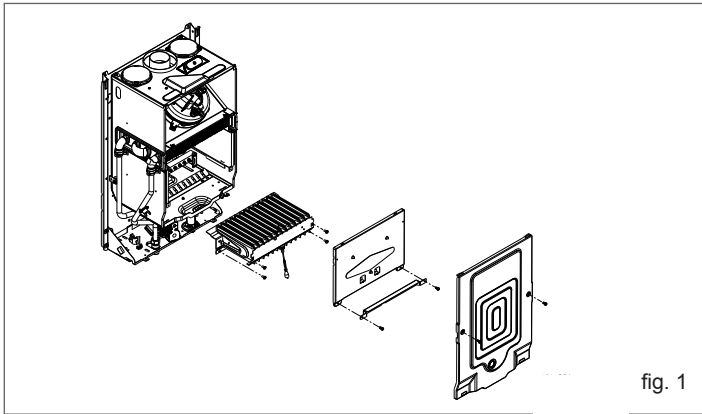

fig. 1
- remove in this order: the casing, air tank cover and combustion chamber cover (fig. 1)
- remove the burner screws and then the burner with the spark plug attached and the relative cables (fig. 1)